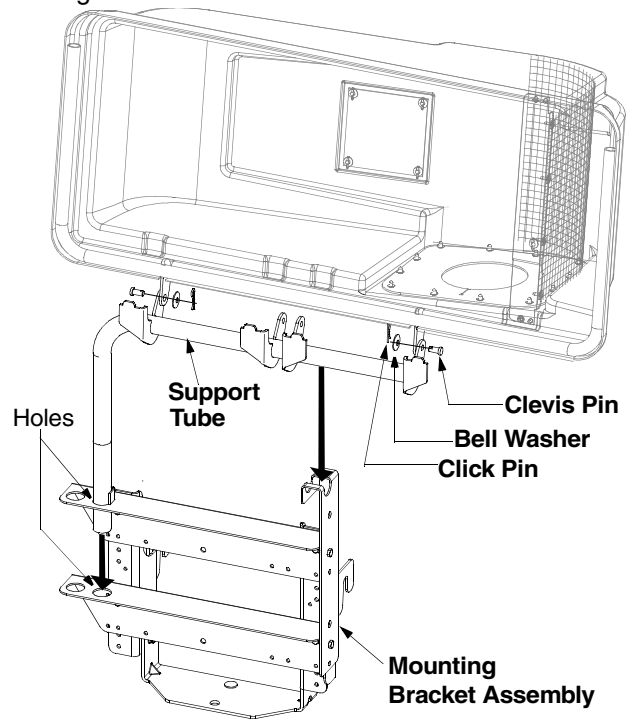

Figure 4
- Slide the support tube down through the holes in the left side of the mounting bracket assembly. Use the **inside** hole on the bracket assembly regardless of what size deck your tractor is equipped with. See Figure 4.